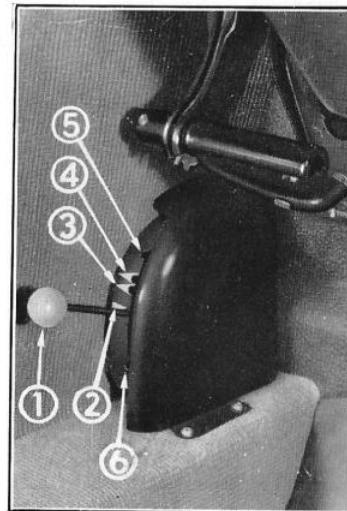

Fig. 8-Adjustment of ground clearance
The control 1 (fig. 8) can be moved to the three positions marked by white bars on its housing. When it is opposite the mark 2 the car is at the normal height.
— Push the lever **1** (fig. 8) as far as possible towards the top, the body will slowly rise.
- Push the control lever as far down as possible at **6** (fig. 8) and wait while the wheels are raised. (The front and rear wheels on the side on which the stand is placed are raised simultaneously).
- Bring the height control lever to the high position **5** (fig. 8).